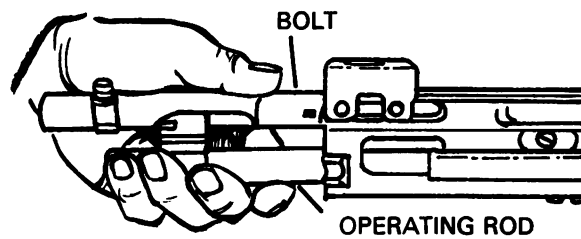

Figure 6. Withdrawing the operating group from the receiver.
(6) When the operating rod and bolt are about 4 inches out of the receiver, grasp them securely to prevent the bolt from rotating, and remove them from the receiver (figure 6). Relax the grip and allow the bolt to rotate slowly.